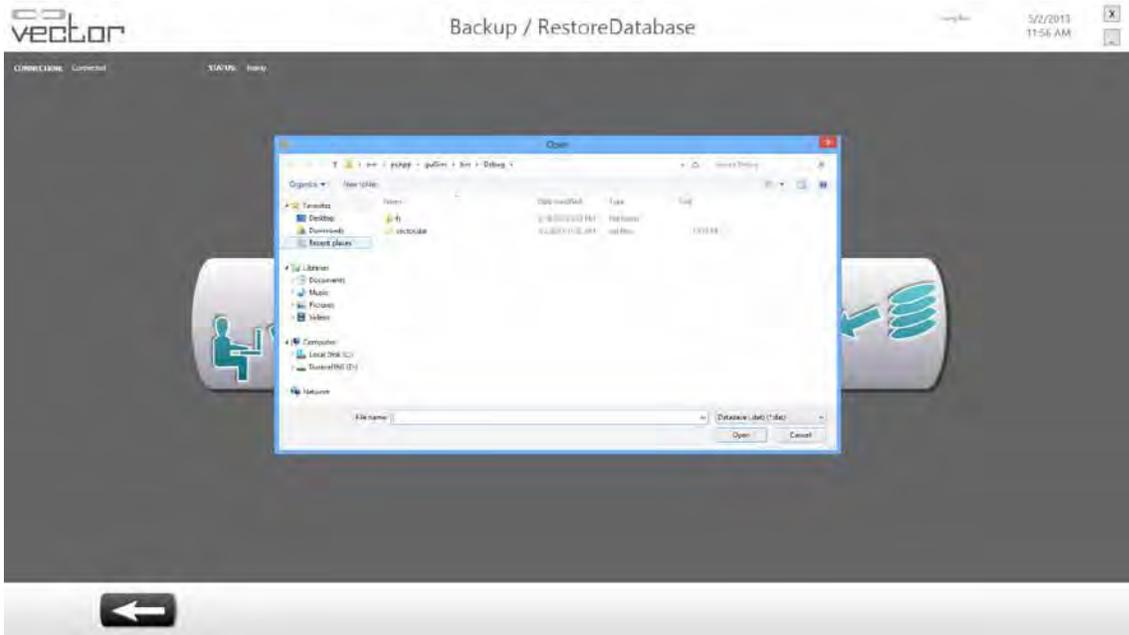

Figure 8-8: Restore Database
2. A window will appear, search for file and press Open button. See Figure 8-8.